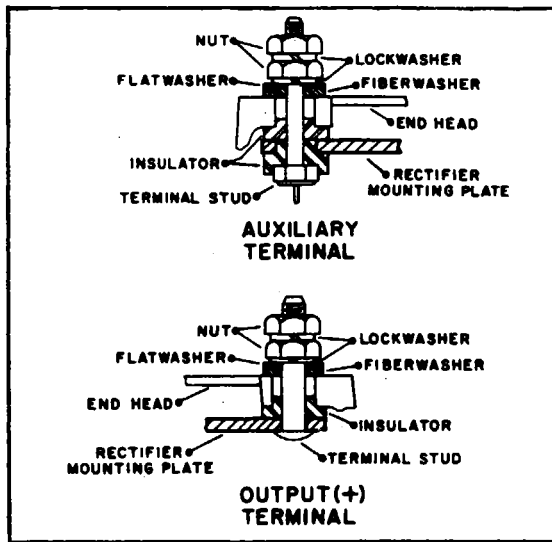

Figure 11-44. Terminal Assembly
c. Reassemble the rectifier mounting plate studs and insulators, making sure they are in the correct order. (Refer to Figure 11-44.)